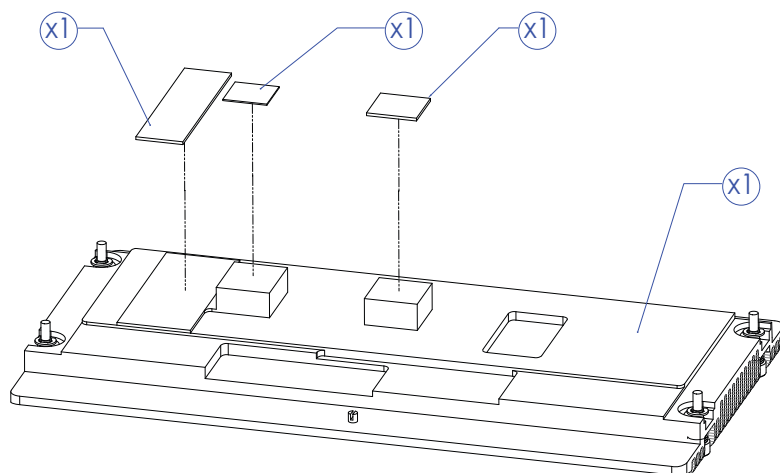

Figure 2.17 Illustration for step 3
3. Remove original thermal pads (to protect CPU/ South Bridge) and paste new thermal pads on heatsink. (Figure 2.17)